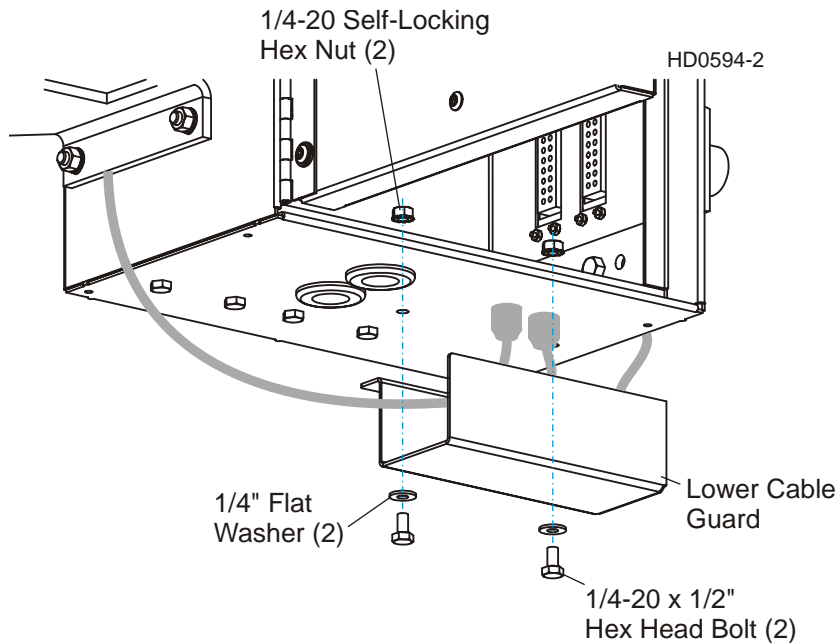

**FIGURE 17**
**See Figure 17.** Place the cover in position behind the holes and secure with two bolts, lock washers and flat washers provided.